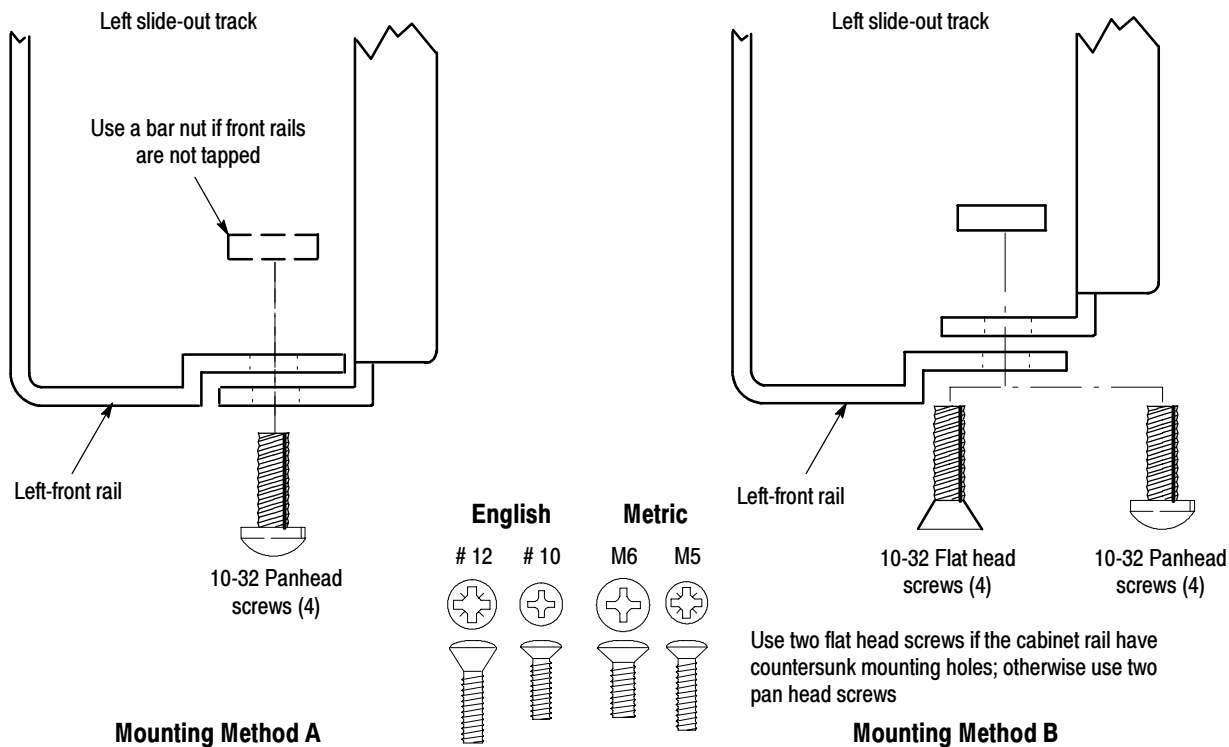

Figure 11: Installation of slide-out track assemblies in rack (top view)
- To mount the slide-out tracks with their front and rear flanges outside of the front and rear rails, use method A shown in Figure 11 when doing substep c. Add a bar nut to the installation only if the rails have untapped holes.
- To mount with front and rear flanges inside of rails, use mounting method B outlined in Figure 11. This mounting method assumes untapped holes.